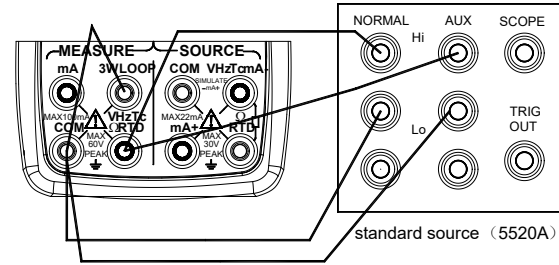

Figure 18 Adjusting all ranges of ohms
**Step 3:** Connect the lead cables to the output terminals of the standard source as shown in Figure 18.